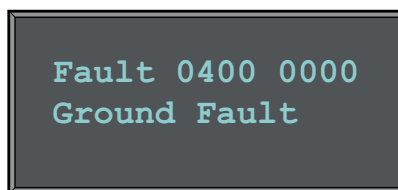

Figure 3-7 Ground Fault Message
- If current is greater than 1A between the grounded array terminal and the earth ground, the fuse will “blow”. A “blown” or open fuse will disconnect the PV arrays from their ground reference and interrupt the ground fault current. In this situation, the inverter will cease operation and display a fault message as shown in Figure 3-7.